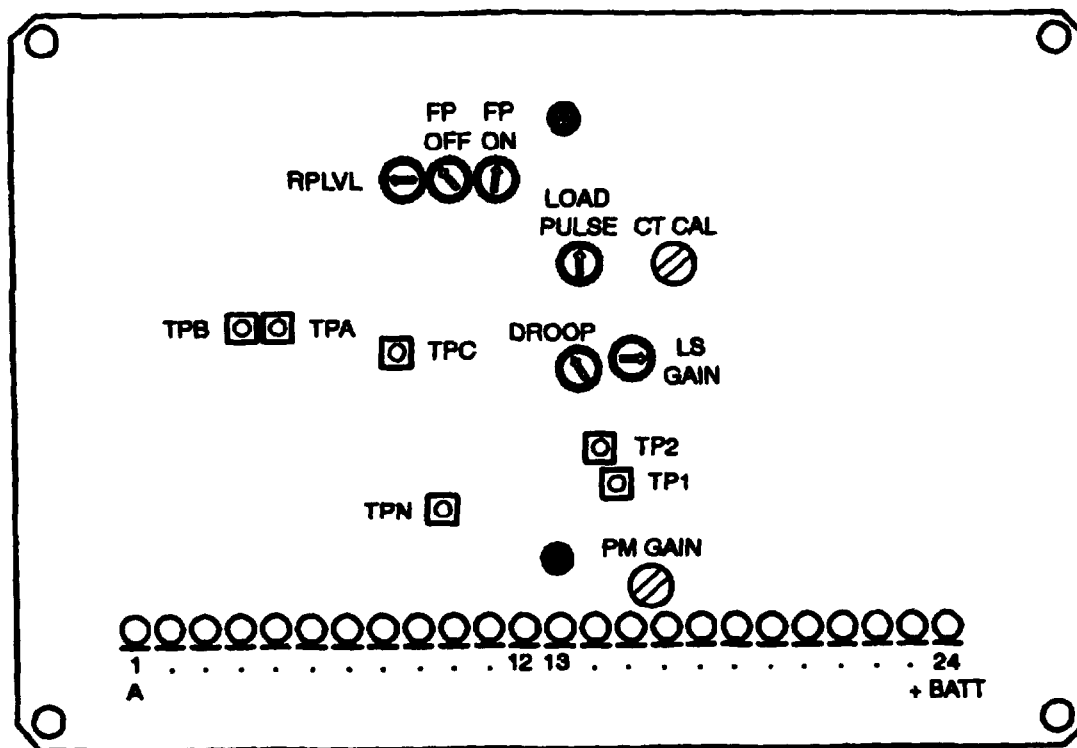

Figure 5-25 Digital Isochronous Load Sharing Module N4, Location of Potentiometers and Test Points.
2. Open digital isochronous load sharing module N4 (36) as instructed under REMOVAL, step 7.
3. Preset potentiometers as follows (figure 5-25):